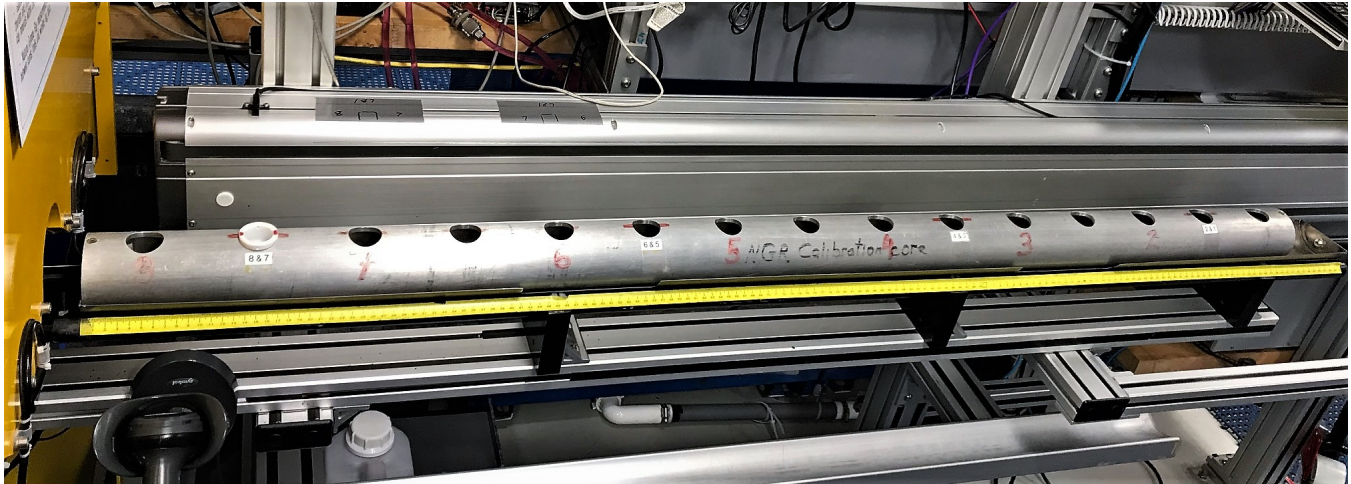

Figure 28. Proper positioning of the NGR metal core and the plastic source holder for performing a calibration.
1. Place the metal core into the boat, ensuring that hole 8 is closest to the logger (Figure 28).